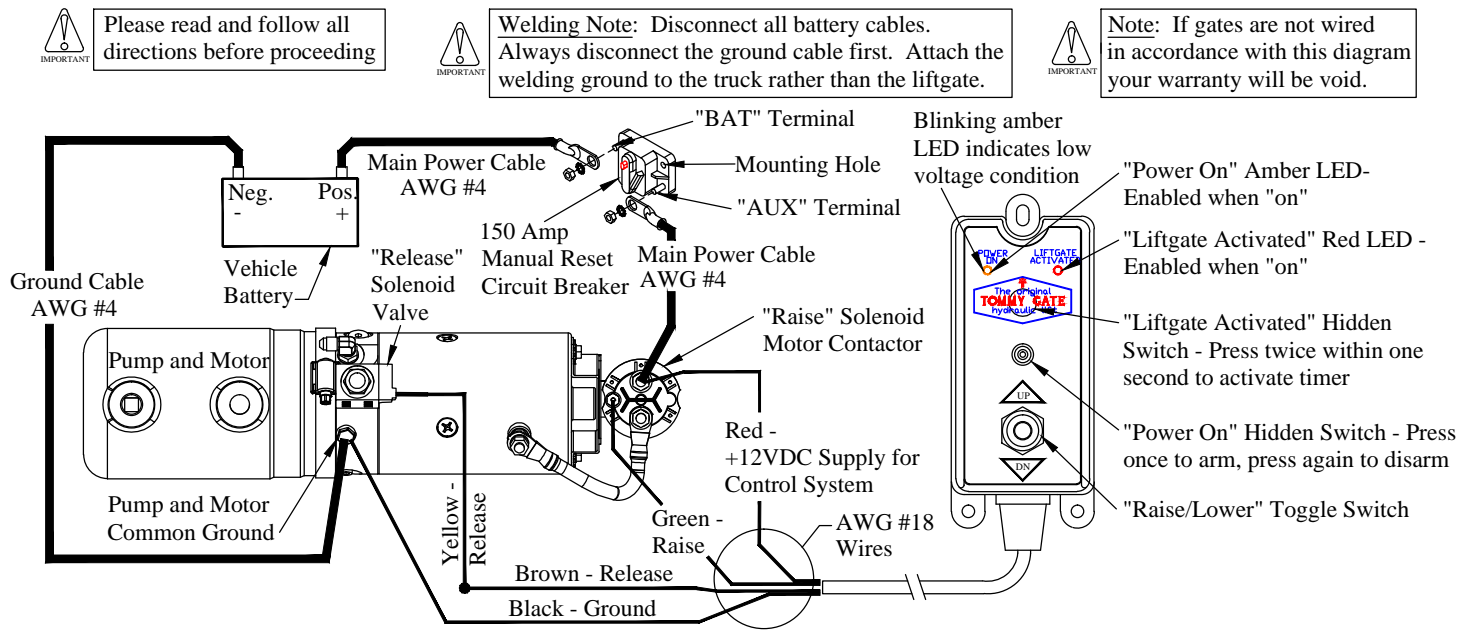

Figure 21: Wiring diagram.
3. **Push** the hidden "Power On" switch (Figure 21). The amber "Power On" LED will illuminate.
13. **Connect** the circuit breaker and battery as outlined in the *Tommy Gate Recommended Electrical Wiring Guidelines* and wiring diagram (Figure 21).